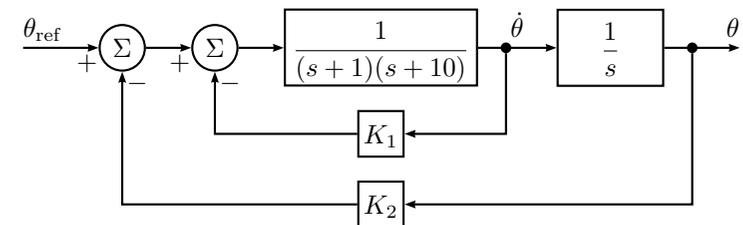

Figure 3.9a
3.9 The block diagram in Figure 3.9a shows a cascade controlled DC-motor where $K_1 > 0$ and $K_2 > 0$.